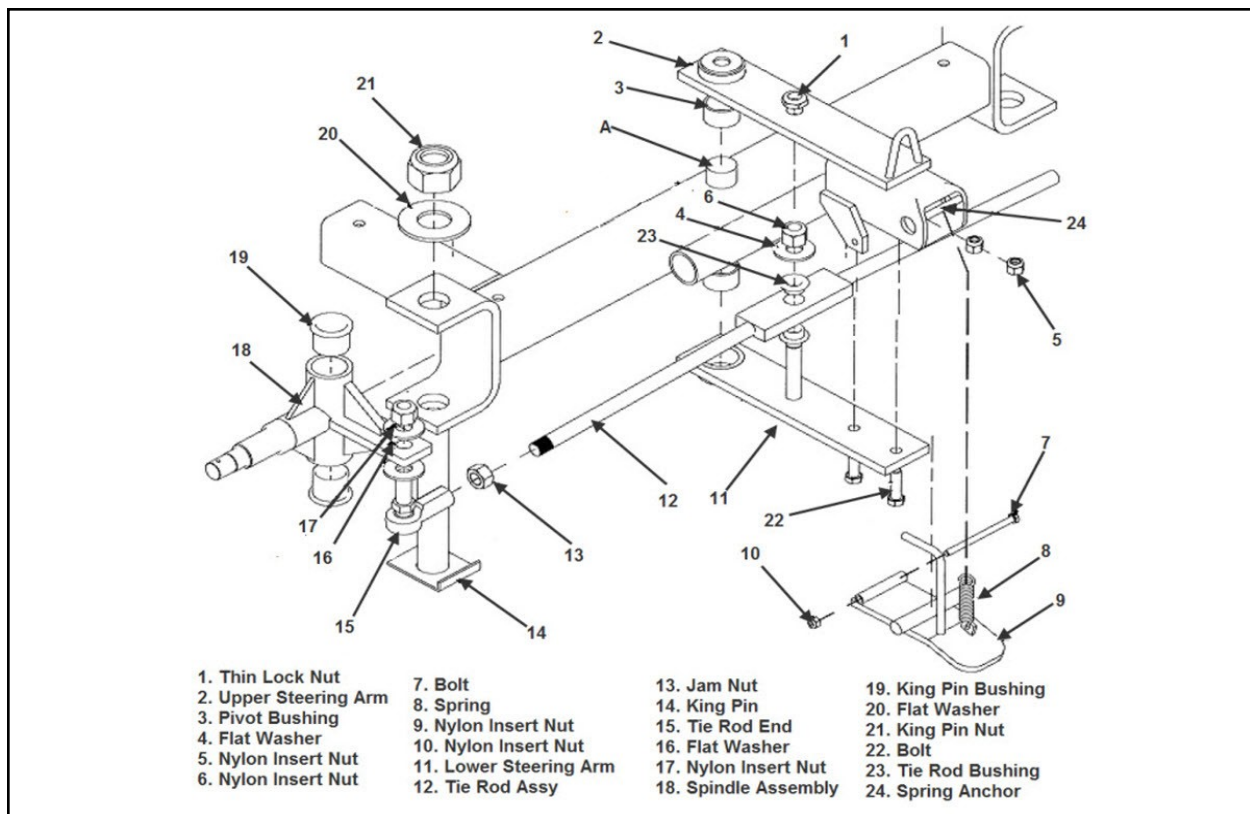

Figure 4-7 Exploded View of Undercarriage
The remaining steps are illustrated in Figure 4-7.
To remove the spindle assembly, follow the maintenance steps for the front hub assembly before beginning the next steps. See Figure 4-7.
- d. Lift upper steering arm subassembly vertically to clear pivot pin (reference arrow (A)), then pull to clear tank and front axle tube.
- e. Remove tie rod assembly (12) by removing nut (6) and flat washer (4). Note the presence of the bushings (23).
Refer to Figure 4-7 for the removal of the tie rod. Before beginning this process make sure that you have followed the steps for the steering arm assembly. **Note presence and location of bushings (23) when removing tie rod assembly from steering arm assembly.**